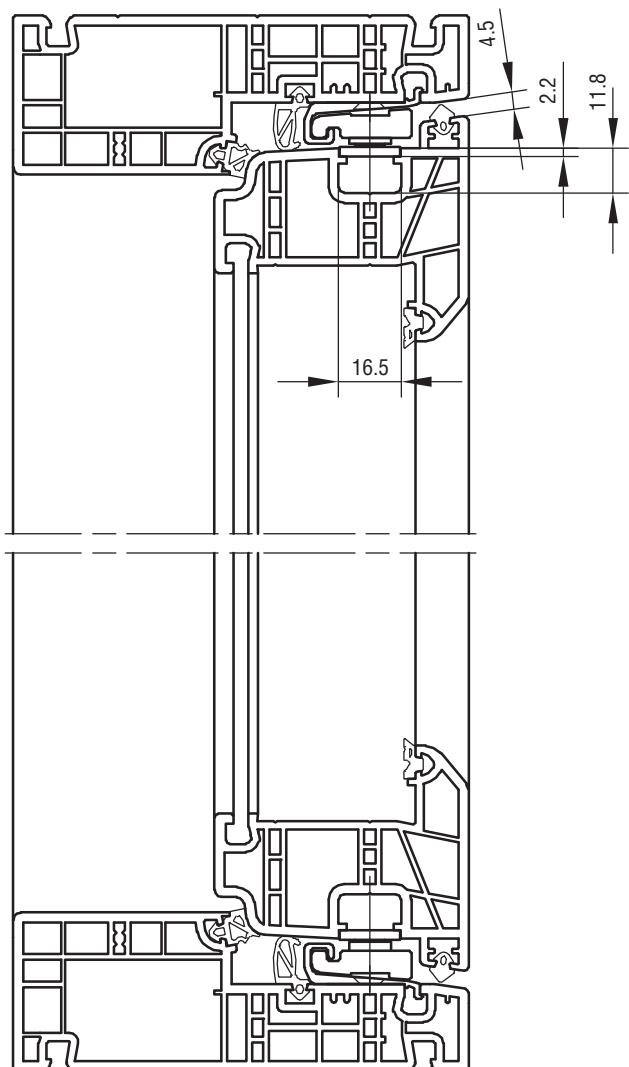

FIG. 1
1. THE FITTING SHOULD BE POSITIONED IN THE GROOVES AT HEAD AND CILL OF FRAME AGAINST THE SIDEFRAME AND SCREWED ON (FIGURE 1 AND 2). FASTEN THE STOP RINGS THROUGH THE MIDDLE HOLE IN THE ALU-RAILS.